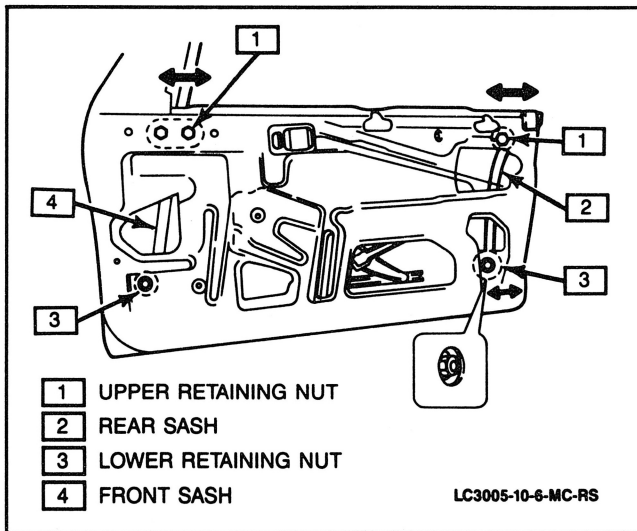

Figure 18 Adjusting Glass in Front/Rear Direction
- Temporarily tighten one of the upper retaining nuts and the lower retaining nut of the front sash at the centers of the oblong holes in the door panel (Figure 18).
- Temporarily tighten rear sash retaining nuts at the centers of the oblong holes in the door panel (Figure 18).
- If the glass is not properly positioned, correct by adjusting retaining nuts (Figures 18 and 20).